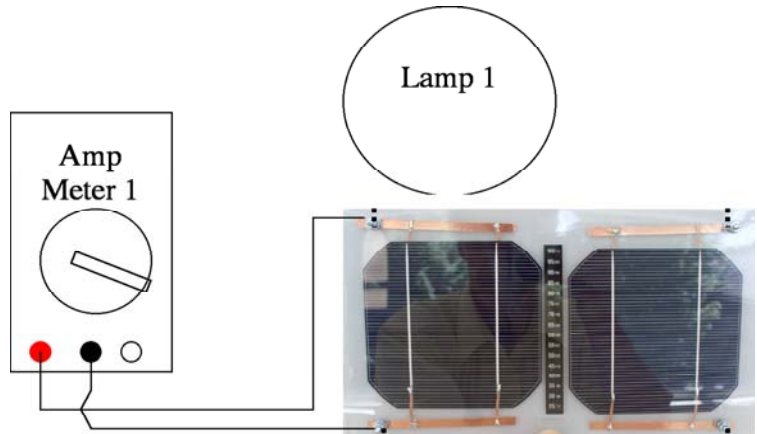

Fig. 5.1: Connections to measure short circuit current.
1. Connect one Solar Cell in the PV Module to an ammeter as shown in Fig 1 above. The red connector is the + output of the cell. The + output connects to the 10ADC input on the meter. The negative black output from the module connects to the COM input of the meter. Set the meter dial to the 10A setting (See Fig. 5.1). Place the desk lamp as **CLOSE AS YOU CAN** to the PV cell.